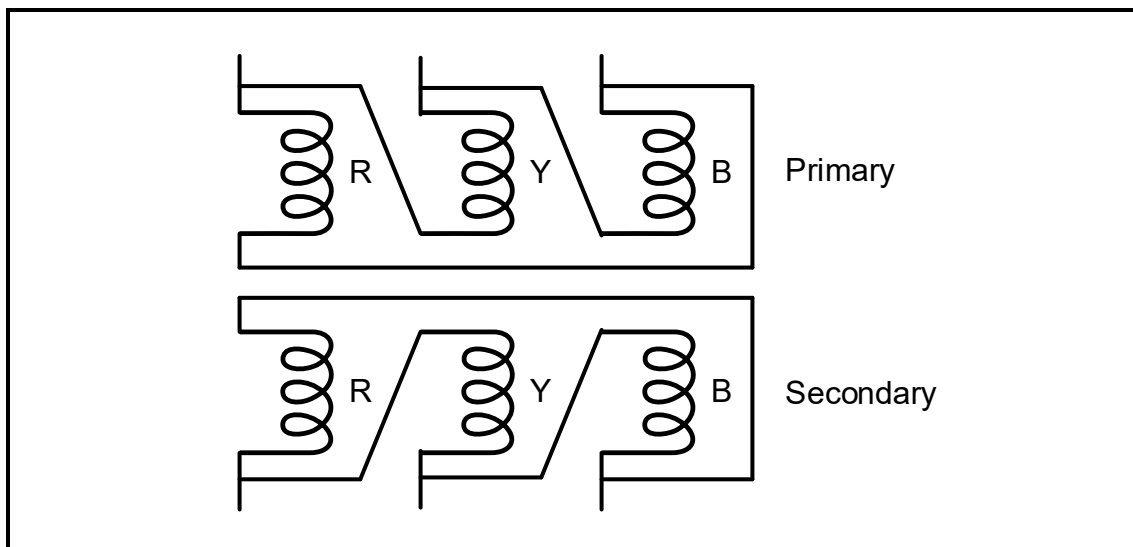

FIGURE 5.5: SINGLE-PHASE TRANSFORMERS
5.5 Refer to FIGURE 5.5 below and answer the questions that follow.
5.5.1 Name the configuration in which the three single-phase transformers are connected in FIGURE 5.5 above. (1)
5.5.2 State whether the primary or secondary windings are thicker if the transformer in FIGURE 5.5 above is a step-down transformer. Motivate why. (2)